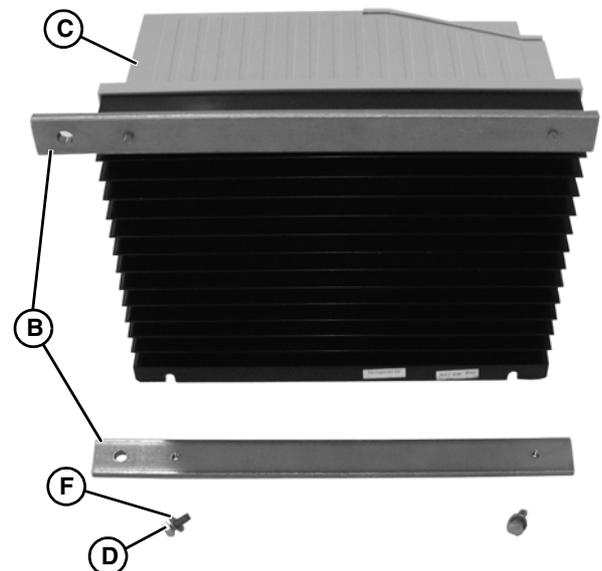

Figure 3
1. Attach mounting bars (**Figure 3, item B**) to controller (**Figure 3, item C**) with washers (**Figure 3, item F**) and screws (**Figure 3, item D**).
1. Attach mounting bars (Figure 3, item B) to controller (Figure 3, item C) with washers (Figure 3, item F) and screws (Figure 3, item D).